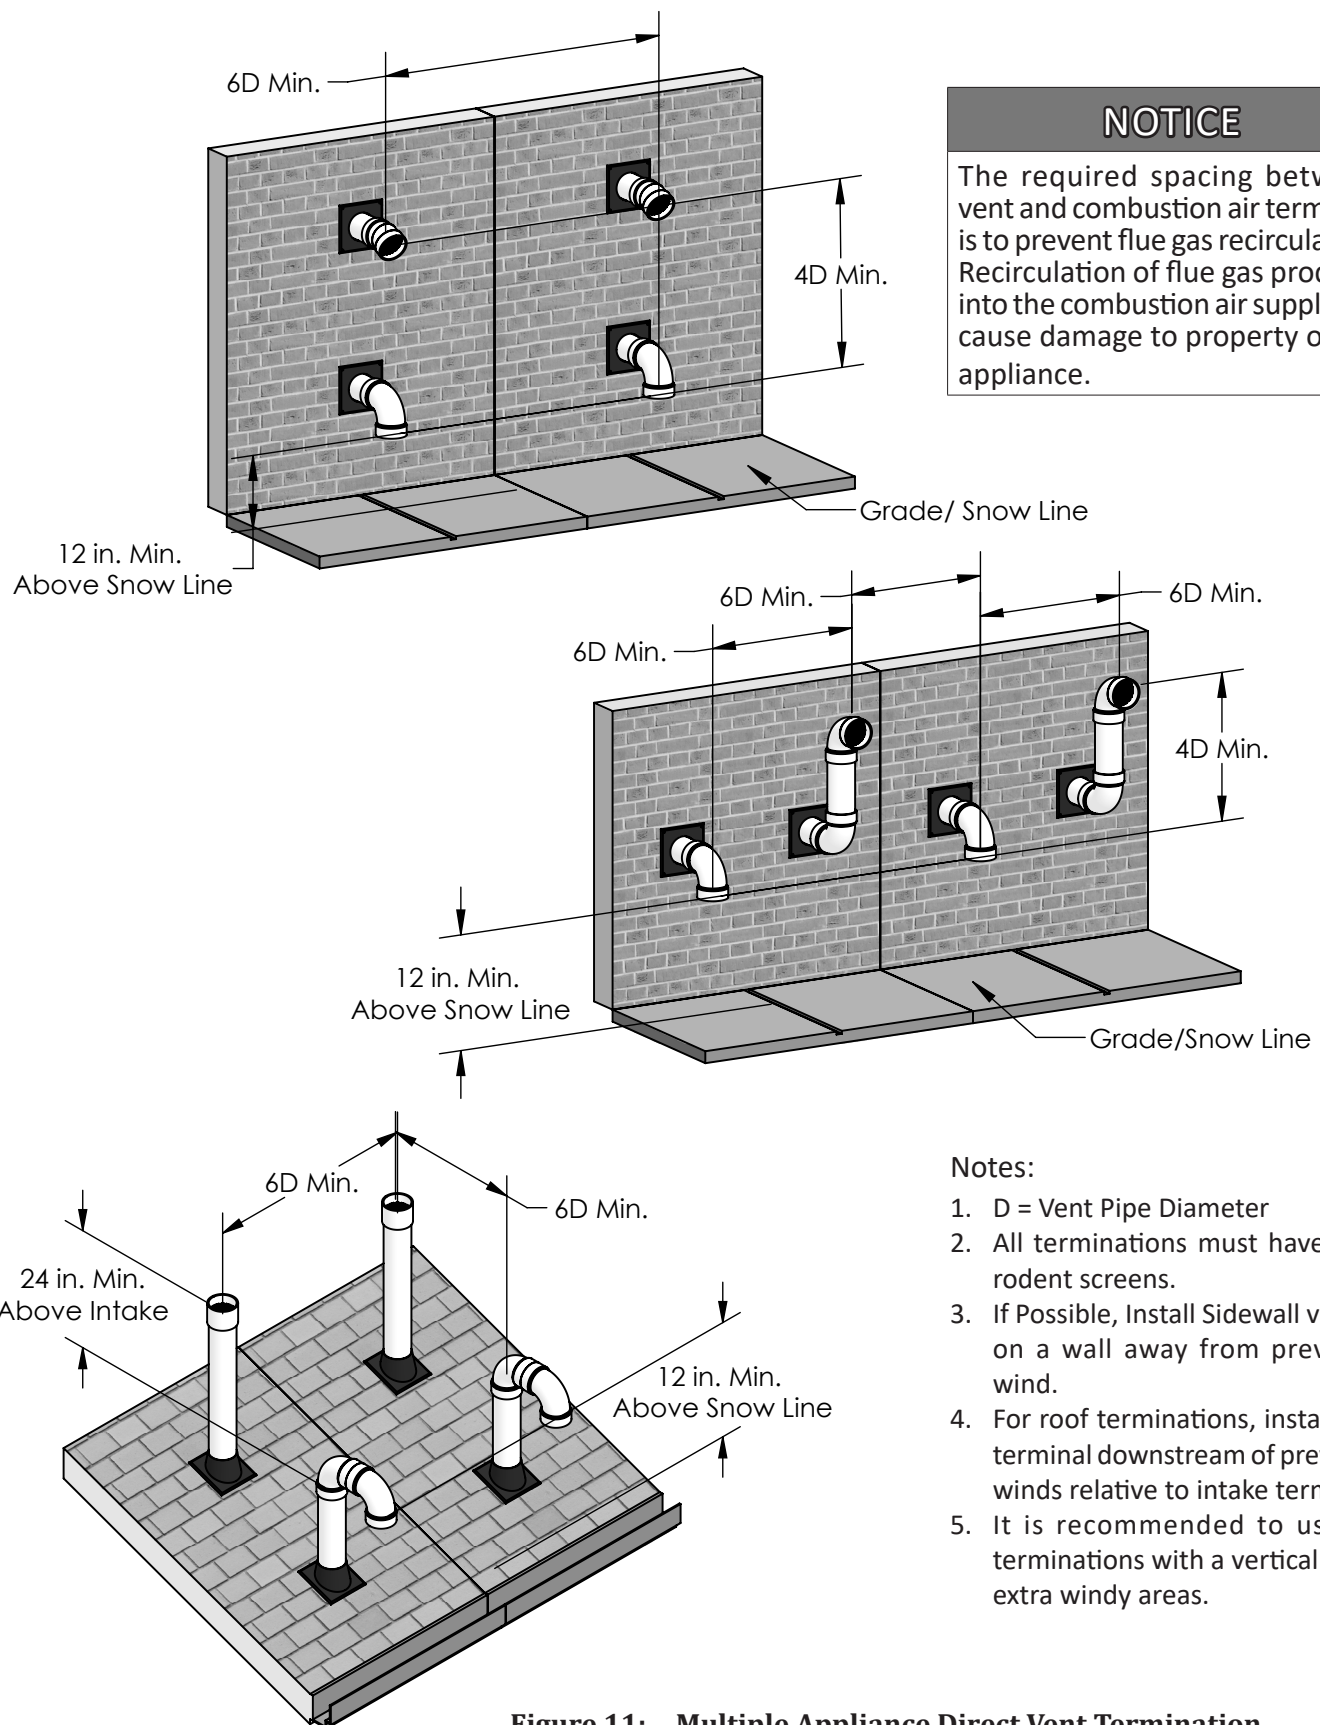

Figure 11: Multiple Appliance Direct Vent Termination
- a. Multiple appliance vent terminations are shown in Figure 11.
- a. Multiple appliance combustion air terminations are shown in Figure 11.